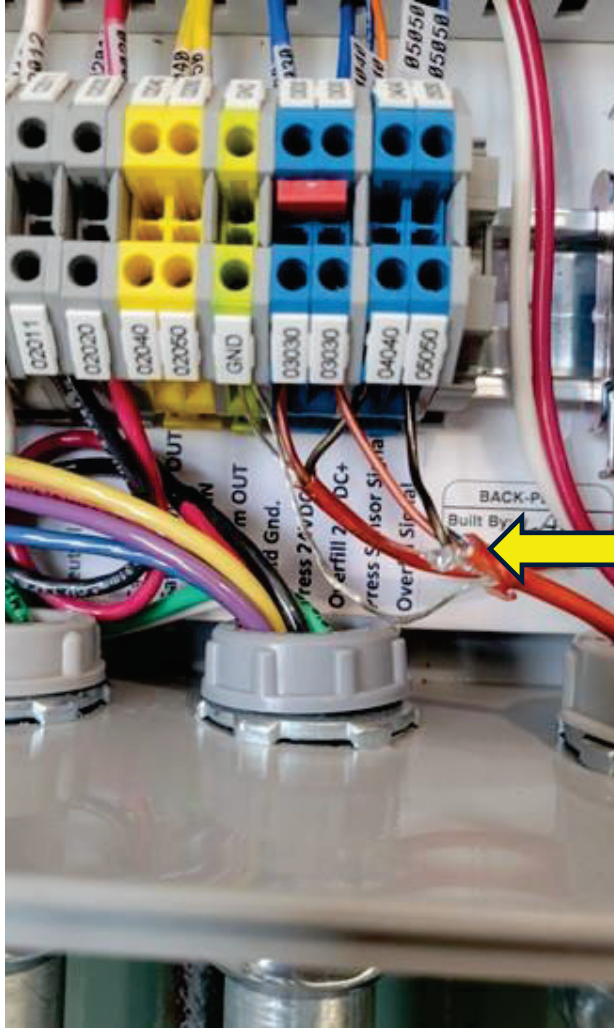

Figure 3-5: GREEN MACHINE Control Panel Connections
- e. The shielded cable is connected to the VST Control Panel: **See Figure 3-5**
3. Install two wires rated for 24 VDC or higher from the R5 terminals to the 03030 and 05050 in the GREEN MACHINE Control Panel. **REMEMBER – DO NOT try to share an existing overfill relay if it's present, high voltage will damage the panel.** Most standard overfill alarms use 115 VAC. High voltage or Belden style wire is acceptable. See Figure 3-5 & 3-6.